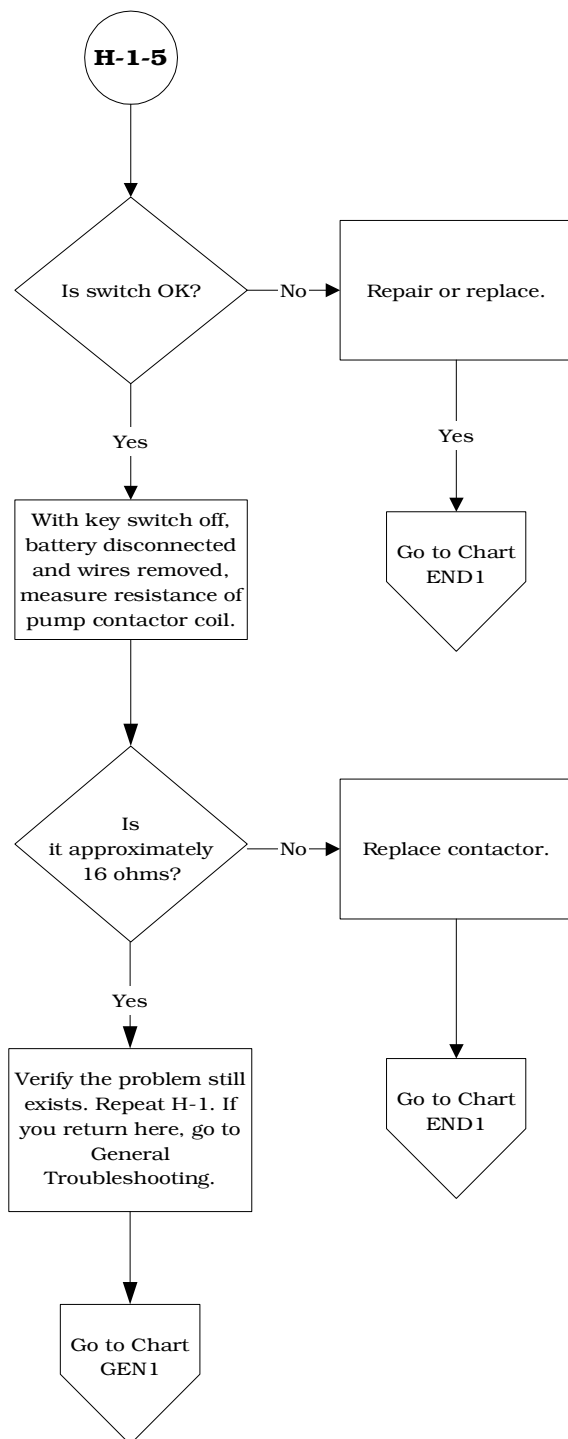

Figure 5-6: Connecting the PMT to the Motor Controller
3. Connect the PMT to the motor controller you want to clone. See Figure 5-6.